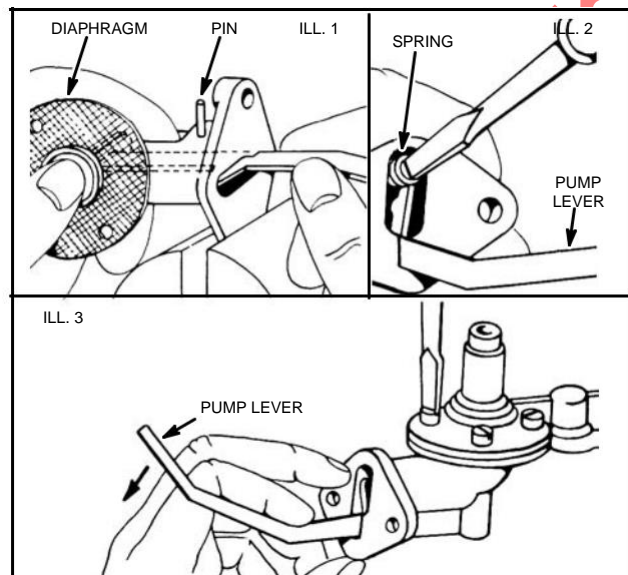

Fig. 307 - FUEL PUMP
Remove pump from cylinder and then remove four (4) screw to separate pump head from pump body, Fig. 307, Ill. 3.
With a narrow punch, drive lever pin out until pump lever is loose, Fig. 307, Ill. 1. Pin may then be driven in either direction, but need not be removed entirely. Remove old diaphragm, but leave diaphragm spring in pump body.
Place new diaphragm into pump body with the slot in shaft at right angles to the pump lever. Diaphragm spring should fit into the cup under the diaphragm. Without the lever spring, insert the pump lever into body holding the diaphragm down. Fit the hook at the end of lever into the slot in diaphragm shaft, Fig. 307, Ill. 1.
Align holes in lever and body, then drive lever pin into place. Place lever spring into body with inner end of spring over the projection in pump body, then use a screw driver to force outer end of spring into body until it slips over projection on lever, Fig. 307, Ill. 2. Place pump head on body and partially insert the four (4) screws. Press pump lever down as far as possible and tighten the four (4) screws securely, Fig. 307, Ill. 3.